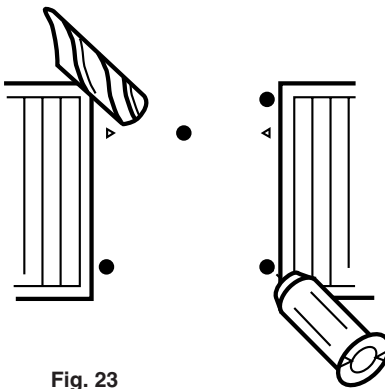

Fig. 23
3. Drill the anchorage holes 63mm (2¹/₂ in) deep to accept suitable wall plugs (Fig. 23).